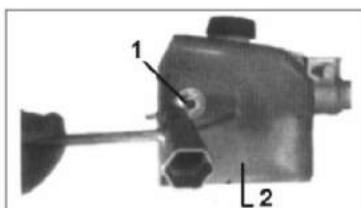

Fig. PP2
1. Using the small end of the plug wrench, remove the sprocket cover nut (turn counterclockwise to remove) and remove the sprocket cover. See Fig.PP2